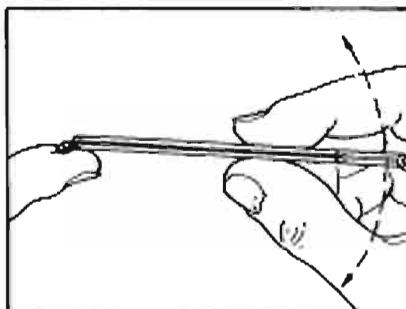

Figure 14. Tilt PRE-CAL Tube to Regulate Blood Flow.
- (1). Puncture the fingertip with a REDI-LANCE Blood Lancet or equivalent disposable lancet.
- (2). Grasp the end of a PRE-CAL Tube nearest the calibration mark, between the thumb and forefinger. Do not obscure calibration mark.
- (3). Insert the end farthest from the calibration mark into the center of the drop of blood on the finger. **NOTE: THE FINGERTIP SHOULD NEVER BE TIGHTLY SQUEEZED TO INCREASE BLOOD FLOW.** Squeezing the finger will dilute the blood specimen with tissue fluid and cause a falsely low hematocrit reading. Hold the tube level (in a horizontal position) and observe the blood level as it approaches the calibration mark.
(4). FILL THE TUBE EXACTLY TO THE CALIBRATION MARK. The rate of filling may be accelerated by tilting the end near the calibration mark below horizontal. The rate may be retarded, stopped or reversed by tilting the same end above horizontal. (Figure 14).